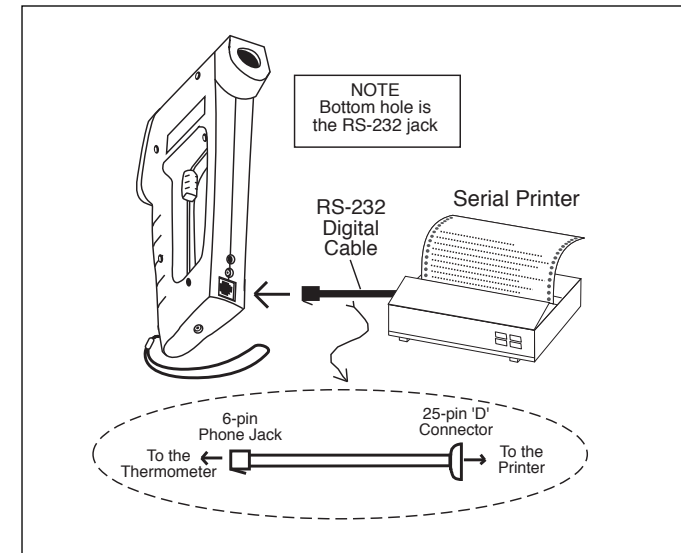

Figure 2-10. Serial Printer Hookup
2. Connect the RS-232 cable between the thermometer and the printer as shown in Figure 2-10.